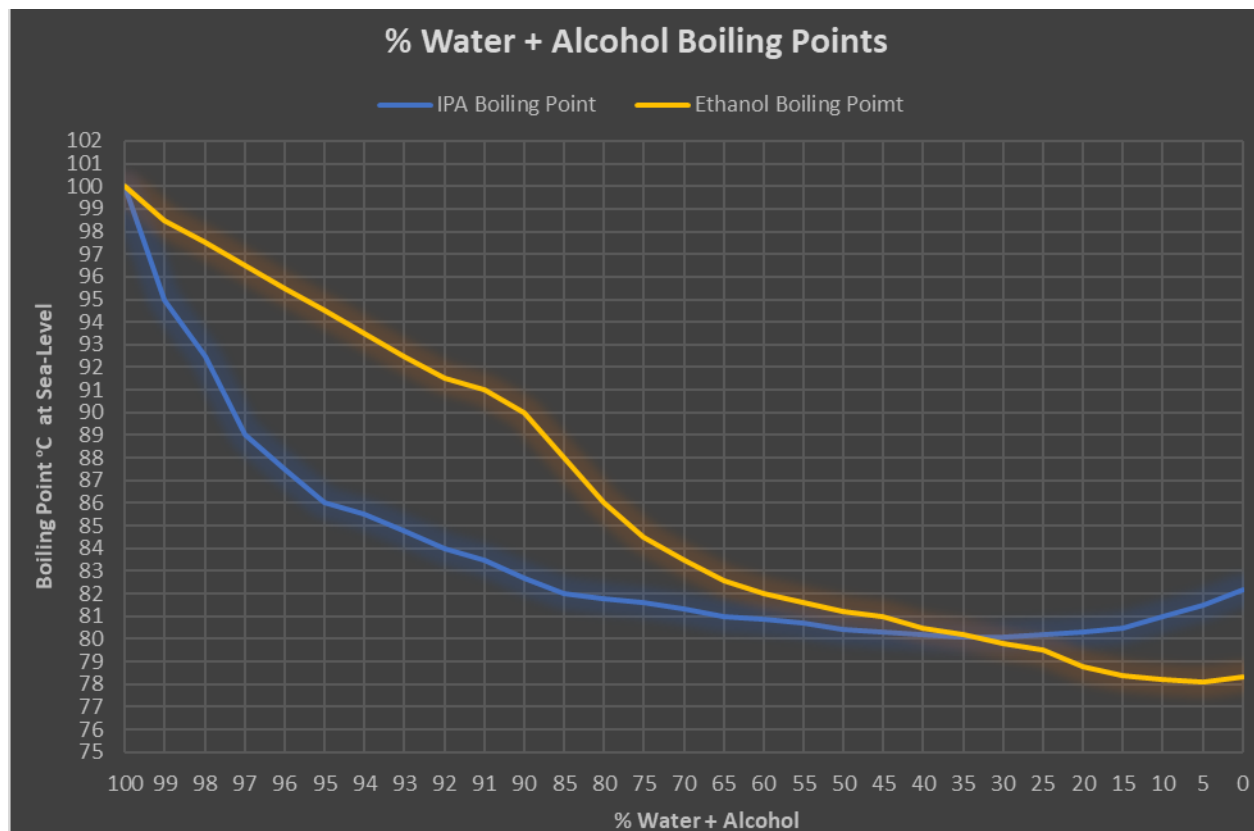

Figure 38 – Water + Alcohol Boiling Points
- VIII.8.2.b Explosion limits are based on the concentration at 25°C/77°F that can explode if an ignition source is applied. At 100% IPA, the lower and upper explosive limits are 2.3 to 13.2%. But, even diluted with water, at 25% IPA + water, the lower and upper explosive limits can be 2.3 to 7.1%. Data source - *Effects of upper explosion limit for isopropyl alcohol by steam, inerting at 1 atm and 150_C by 20-L-apparatus, Shang-Yi Shen • Jia-Chi Chen • Shang-Hao Liu, Ron-Hsin Chang, Horng-Jang Liaw, Chi-Min Shu J Therm Anal Calorim (2013) 113:1619–1624 (73).*
- VIII.8.2.c For information, a cigarette is not a credible ignition source for alcohol, but an electrical arc/spark is; reference: *Geiman, Justin & Fuss, P., (2013). Investigation of cigarettes as an ignition source for Coleman fuel. Fire and Materials 2013 - 13th International Conference and Exhibition, Conference Proceedings. 759-768 (15).*
- VIII.8.3 The purpose of alcohol is mixed. IPA by itself it is often used as a drying agent and diluted 5% to 25% with water able to significantly reduce its boiling point (vapor-pressure) as noted **Figure 38**. However, Ethanol+water does not reduce the boiling point the same amount mostly contradicting its use as a drying agent.